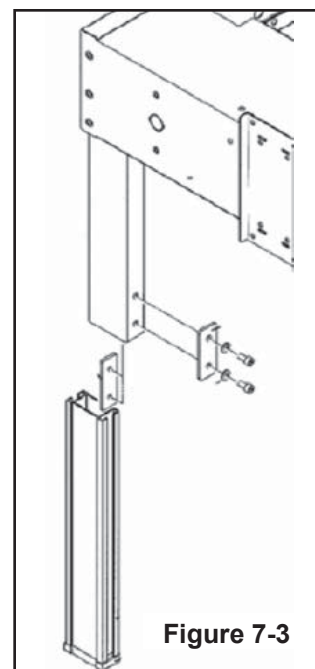

Figure 7-3
- 2 - Adjust machine bed height. The case sealer is equipped with four adjustable legs that are located at the corners of the machine frame. The legs can be adjusted to obtain different machine bed heights (**Figure 7-3**). Also refer to the "Specifications" section.